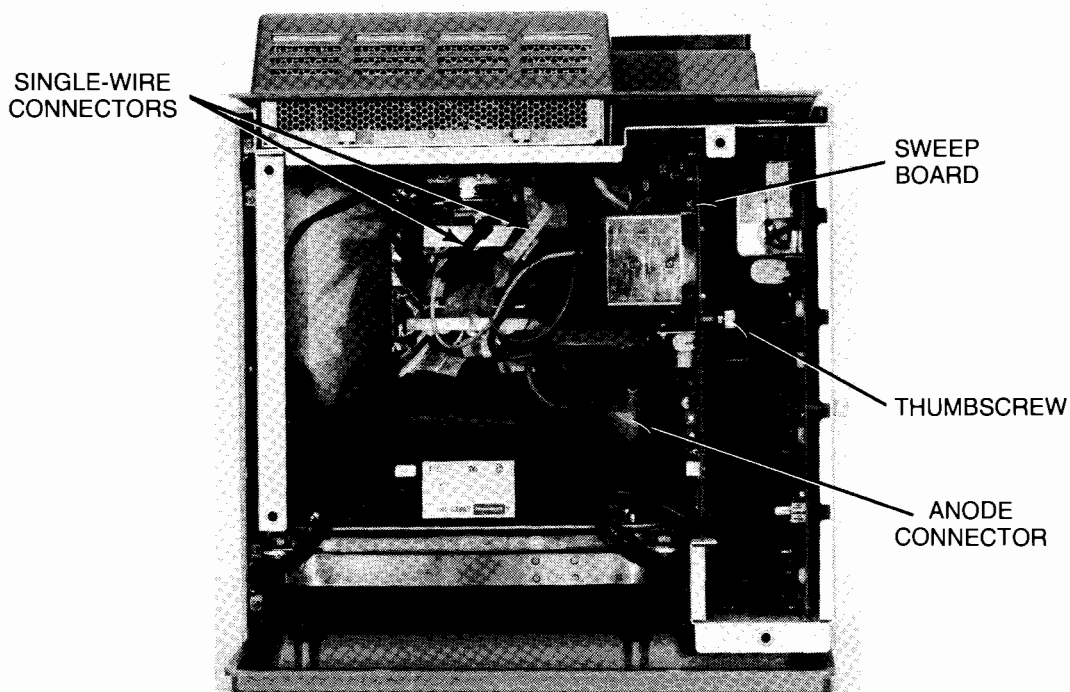

Figure 4-82. Releasing Sweep Board
3. Disconnect two single-wire connectors (Figure 4-82).
4. Fold back rubber from anode connector (Figure 4-82) and short circuit anode to chassis using screwdriver with insulated handle.
6. Loosen thumbscrew that attaches sweep board to chassis (Figure 4-82).
4. Disconnect two single-wire connectors that interconnect video board and sweep board (Figure 4-82).